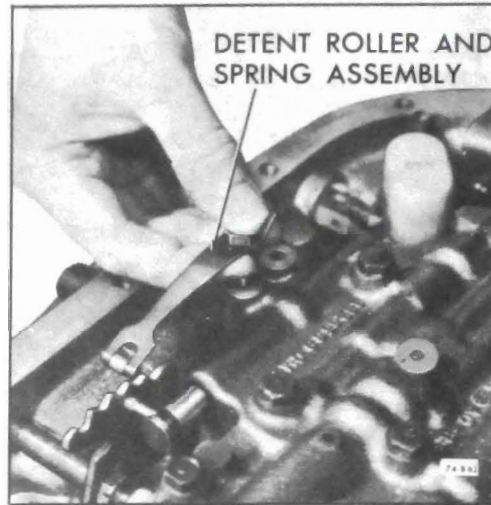

Figure 76-513
3. Remove valve body attaching bolts and detent roller and spring assembly. See Figure 76-513.